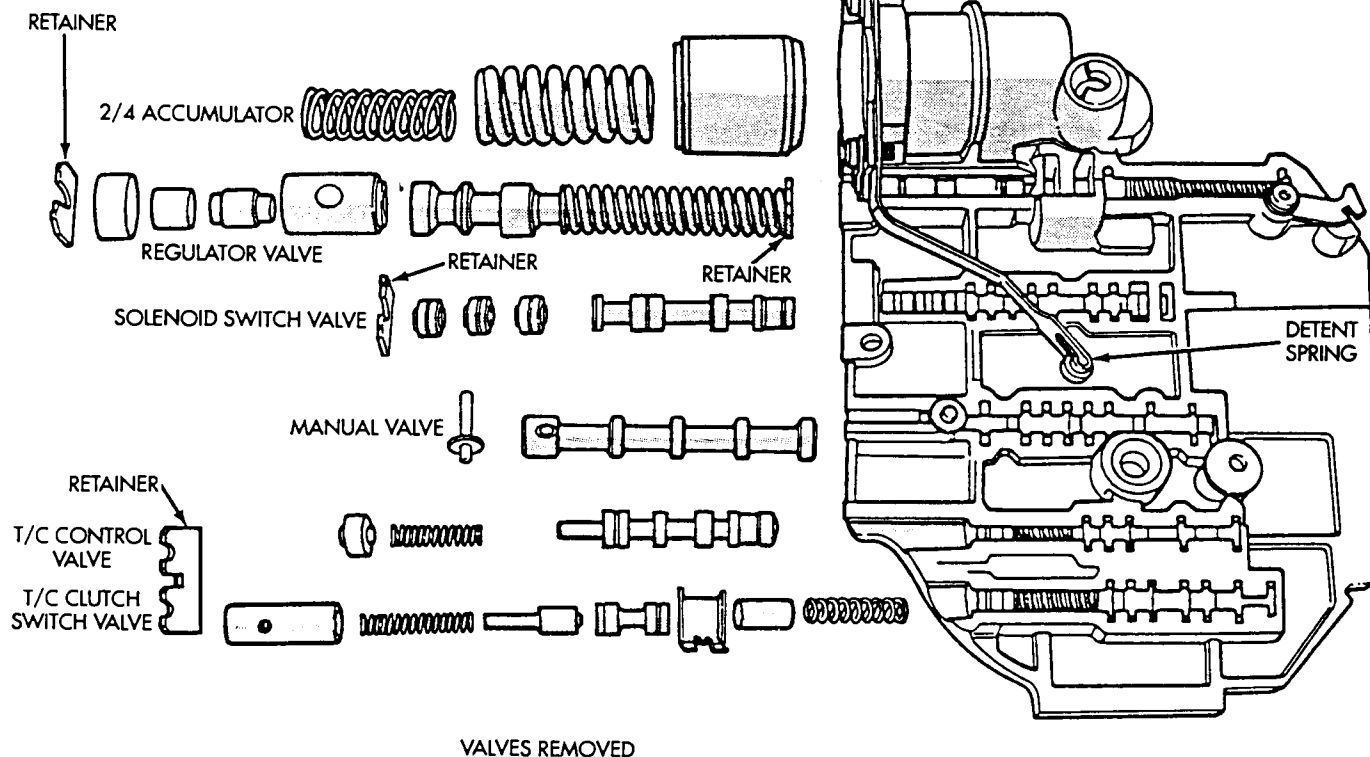

Fig. 16 Valve Body Components
(10) Tag all springs, as they are removed, for reassembly identification (Fig. 16).